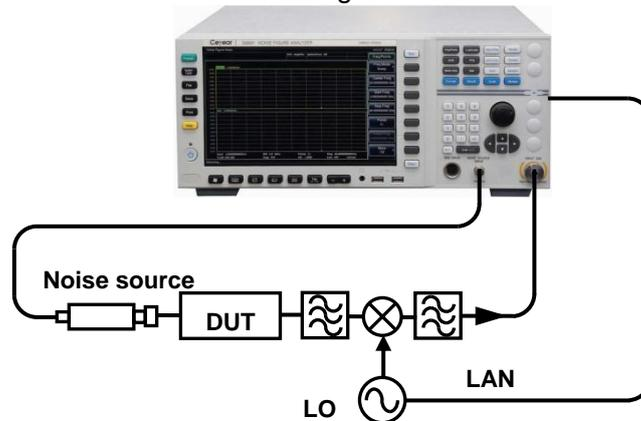

Fig.4.6 Measurement Connection Diagram of System Downconverter Mode
Step 3. After the calibration is completed, insert the DUT between the noise source output and the RF input port of the system downconverter for measurement. The measurement connection of the system downconverter mode is shown in Fig.4.6.